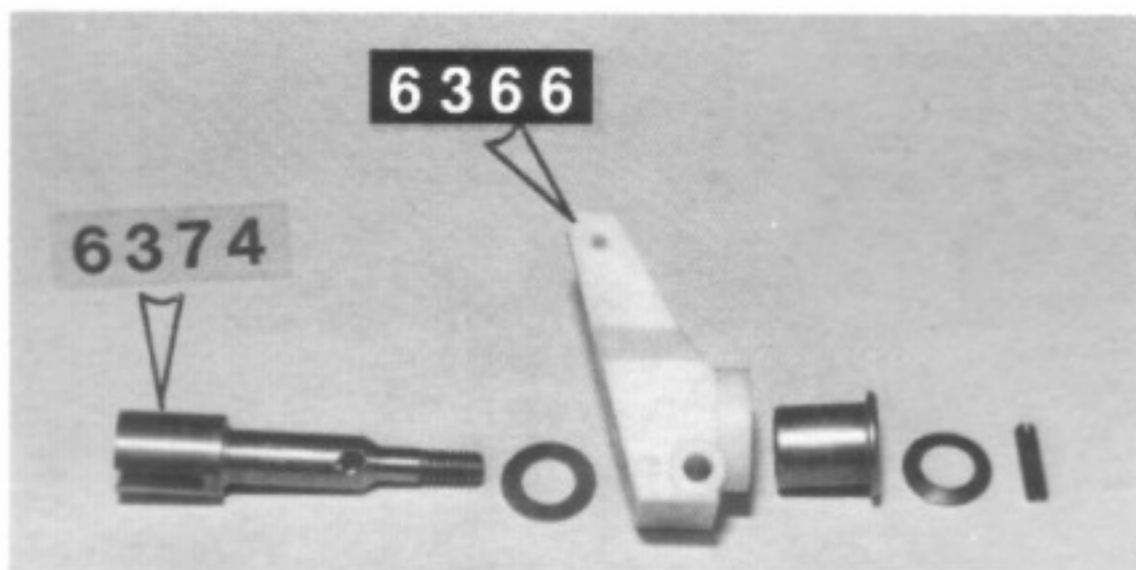

Fig. 110
□ **Fig. 110** Take the #6374 rear stub axle and slip the flat washer, as shown, onto the axle. Install the bushing into the #6366 LH rear hub carrier in the direction shown. If you're installing ball bearings, install one of the large #897 bearings on each side of the #6366 LH hub carrier, and remove the flat washer from the axle. It is only used with bushings. Oil the bushing and slip the axle into the bushing. Now take the cone washer, the one that is not flat, and slip it on the shaft so that the part that touches the bearing is the center of the washer.